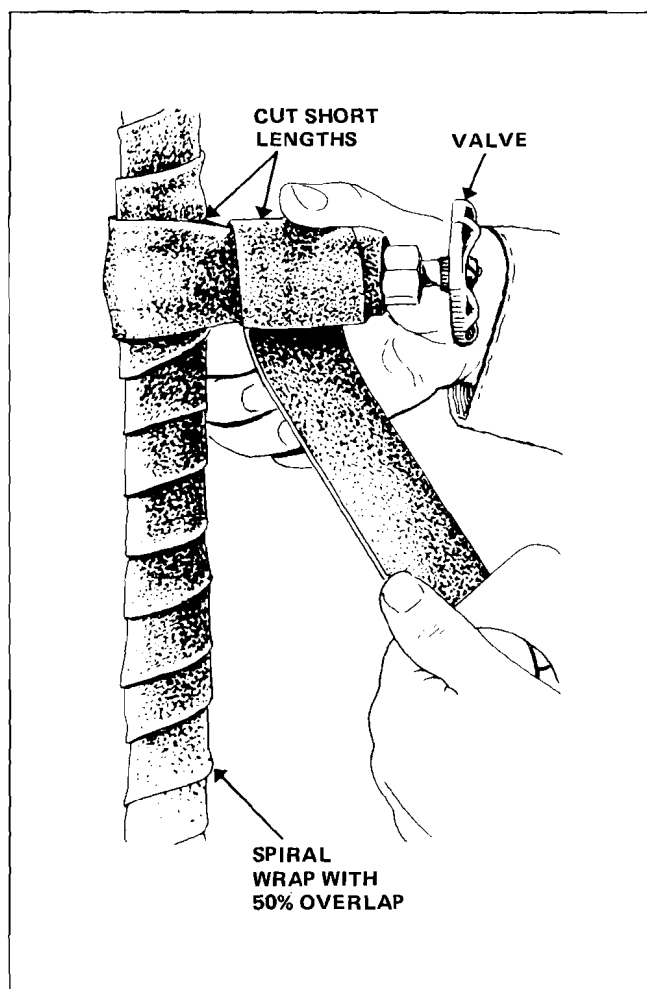

FIGURE 12 – INSULATING TAPE APPLICATION
- (1) Remove protective backing on tape as tape is spiral wrapped around tubing or fittings, using a 50% overlap (see figure 12).
- (2) To insulate valves, tees, or other complicated parts, cut short lengths of tape and press in place where necessary. Be sure no metal or plastic shows through tape (see figure 12).